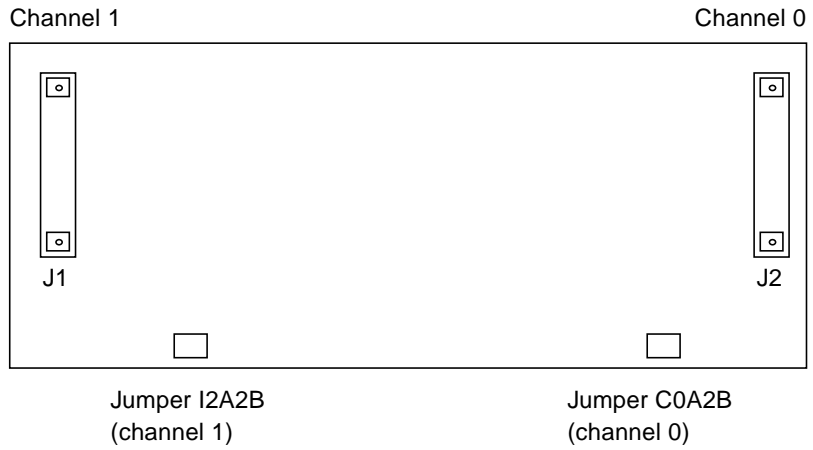

FIGURE 6-42 Driver/Receiver Card, Component Side
2. **Pull the plate down; it swings down to show the rear (component side) of the driver/receiver card. The rear of the card has J1 and J2 connectors for the cables from the quad-channel BMC card. See FIGURE 6-42.**